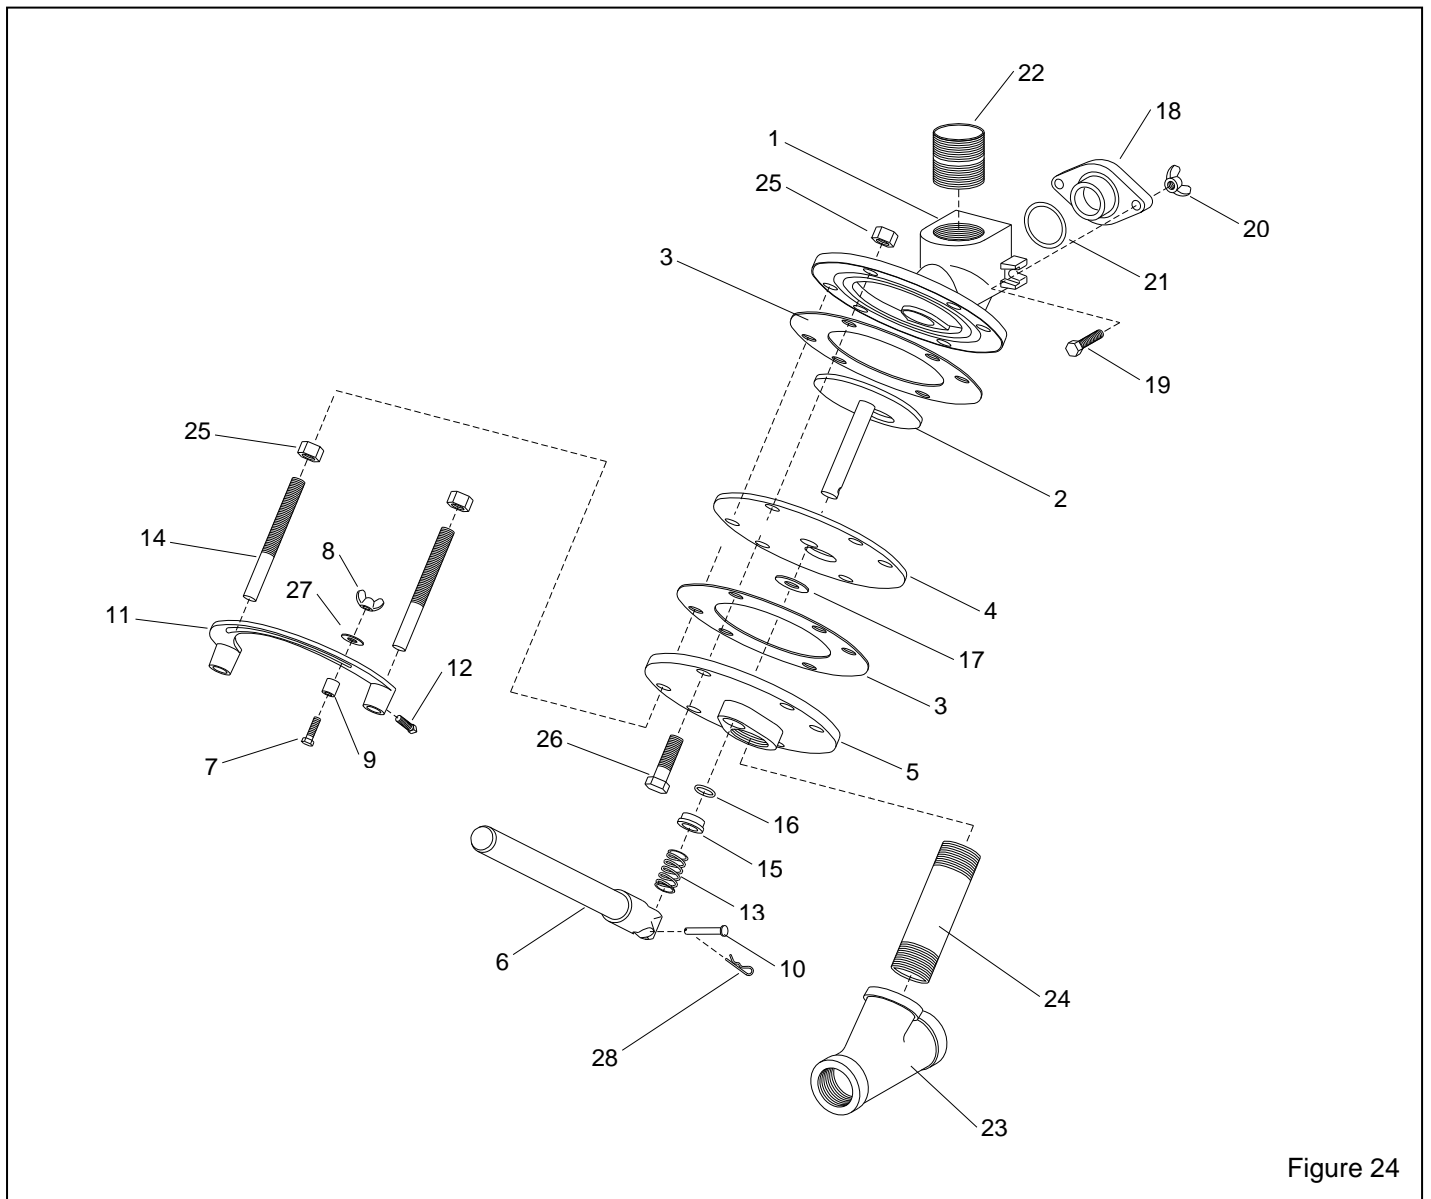

Figure 24
7.6 FSV Abrasive Metering Valve, Figure 24